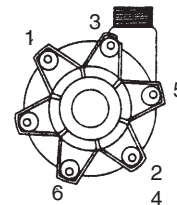

Figure 2
6. Install 5/16 x 3/4 SS hex bolts (Item 7), 5/16 flat washers (Item 8), and 5/16 hex nuts (Item 9) making sure discharge is in correct location. Tighten bolts to 60-75 in/lbs of torque using pattern shown in Figure 2.